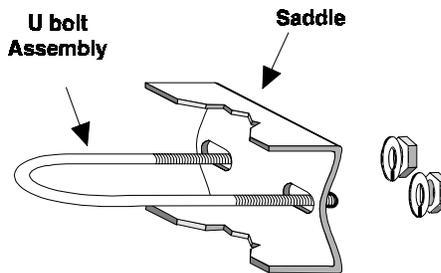

Figure 6 U bolt assembly.
- A. Remove the nuts, washers and saddle from the U bolt. See Figure 6.